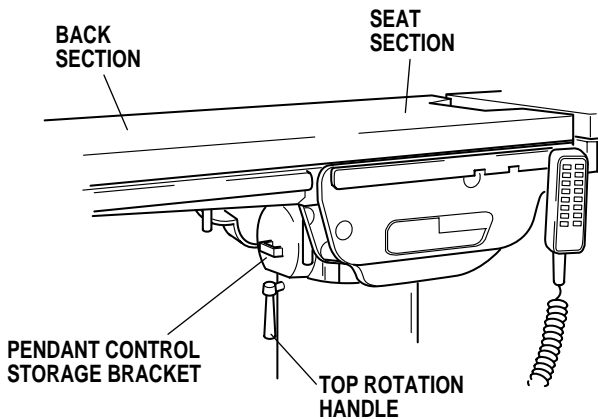

Figure 3-13. Pendant Control Storage Bracket
k. Pendant Control Storage. When the Pendant Control is not in use, it should be stored on a convenient side or end rail. A bracket is located under the table top for storage of the Pendant Control when the table is not in use and during cleaning. See figure 3-13.